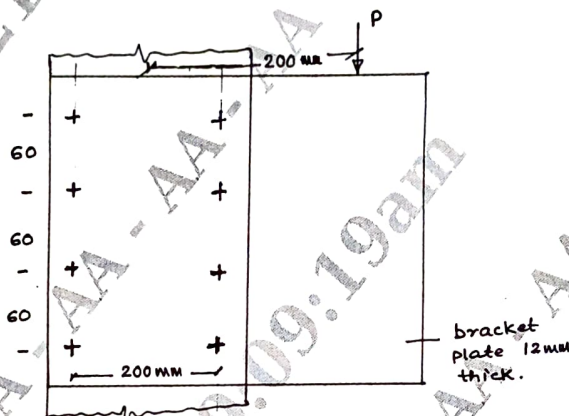

Fig.Q2
**Note: 1. Answer any FIVE full questions.****2. Use of IS 800 – 2007 and SP – 6(1) steel table is permitted.****3. Missing data, if any, may be suitably assumed.**
- Calculate the design load ‘P’ for the joint shown in Fig.Q2. 18 mm dia grade 4.6 bolts are used.